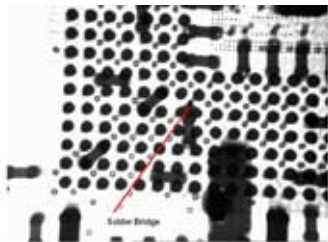

Figure 1. Solder Bridge
- 1) Bridging – an overall 2D image will be captured. This allows for inspection of bridging or shorting between individual solder joints. See Figure 1.